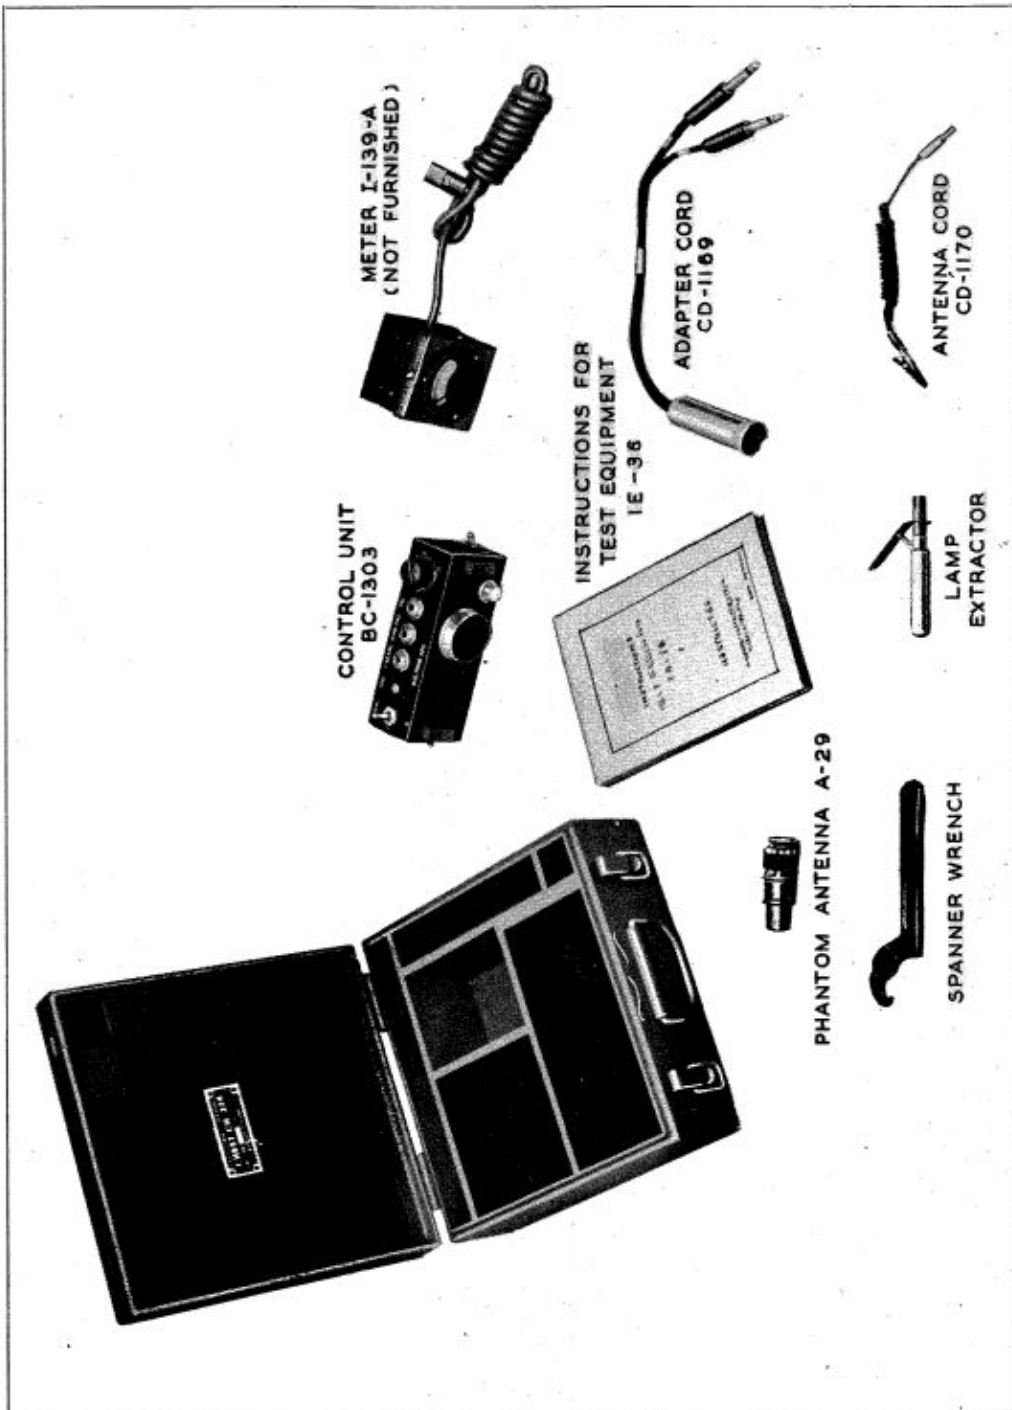

Figure 1—Test Equipment IE-36, Composite View
a. CHEST CH-234.—All components of Test Equipment IE-36 are contained in Chest CH-234. This chest is made of wood and is divided into suitable compartments for transportation of the components. The hinged cover of the chest is fastened by two hasp type catches, between which is the handle for carrying the chest. (See figures 1 and 2.)
b. CONTROL UNIT BC-1303.—This control unit is packed in the front compartment of Chest CH-234. It is a metal case with black wrinkle finish, with operating controls on its front, bottom and two ends. The top and rear comprise the cover which is removable. On the bottom is the 18-contact plug and a pilot light. On the front, from left to right, are a "T-R-REM" toggle switch; an "ANT" pin jack; a "CAR MIC" jack; a "MAG MIC" jack; a "TEL" jack; a combined "OFF ABCD" band selector knob switch and a hole marked "BUZ TONE ADJ" through which adjustment is made. On the right hand end is a "CONT ON-OFF" toggle switch and on the left hand end is a "SIG GEN ON-OFF" toggle switch. (See figures 1, 3, and 4.)
c. TEST SET I-139-A.—This test set is the 0-1 ma d-c meter as used in Test Equipment IE-19-A and may be separately issued for addition to Test Equipment IE-36. It is to be carried in the compartment of Chest CH-234 immediately in back of Control Unit BC-1303. (See figures 1 and 5.)